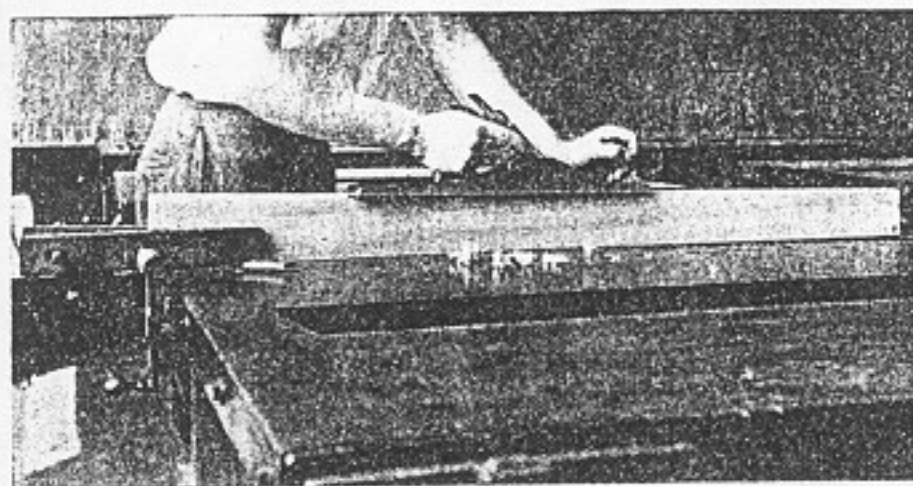

Fig. 95. Planing edge of a long board, one end held in vise, the other supported by a hand screw.
36. Planing an Edge. 1. An edge is usually planed at right angles to the sides of a board. A short board may be clamped in the bench vise. A longer one can be held at one end in the vise, while its other end can be supported on the bench top with a hand screw clamped to it (Fig. 95).